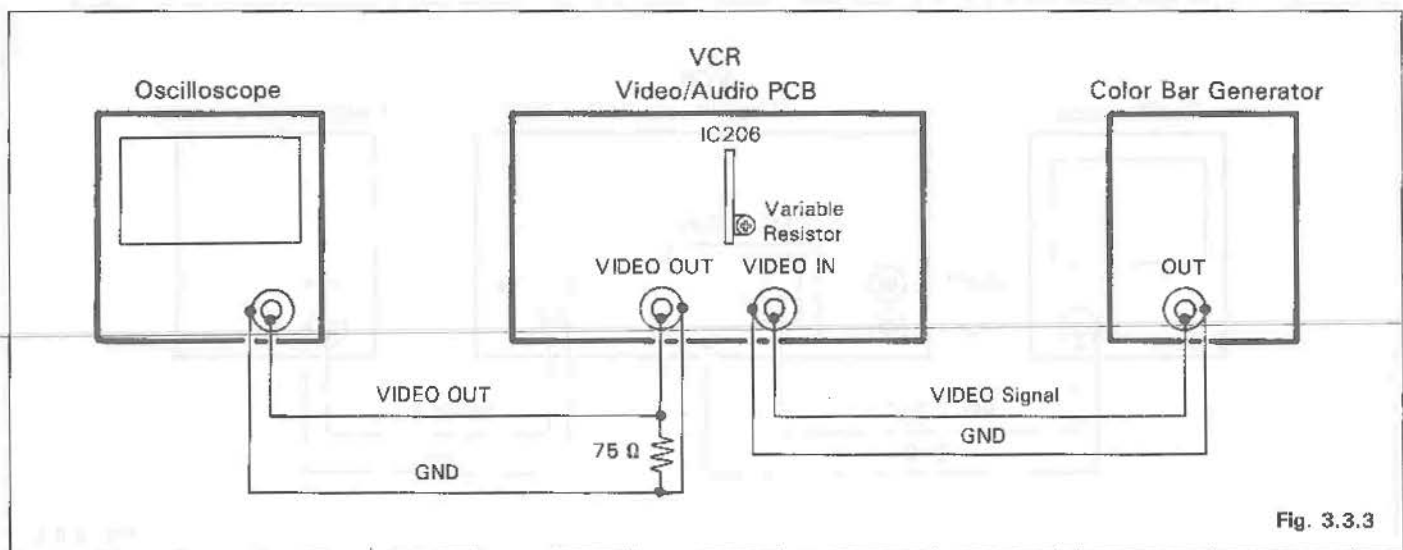

Fig. 3.3.3
1. Connect the color bar generator (EIA color bar signal) to the VIDEO INPUT terminal. (Refer to Fig. 3.3.3)
3. Connect the oscilloscope as shown in Fig. 3.3.3.